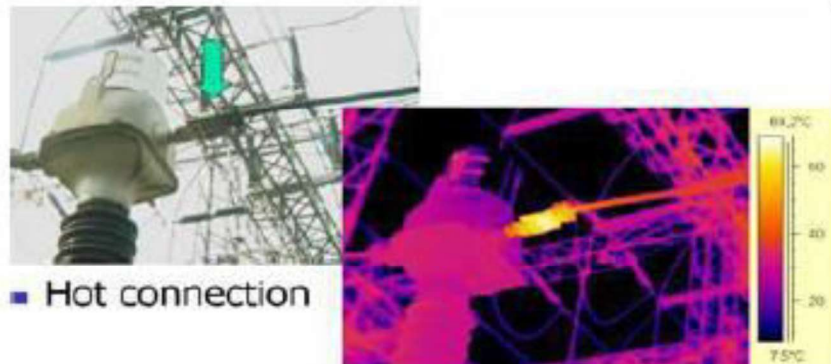

**Fig 3.1: Block Diagram of Thermography**
**Experiment procedure to determination of thermal image System set up**-The system that is based on IR image sequence processing is recorded the temperature variation history on the surface with periodical heat flow generation by using of infrared camera, and then, the image sequences are processing with the signal processing algorithms to obtain the amplitude and phase image, which are used to FFT method. Fig.3.1 shows the principle of the Lock in thermography based on the image sequence processing. Thermal imaging cameras convert the energy in the infrared wavelength into a visible light.